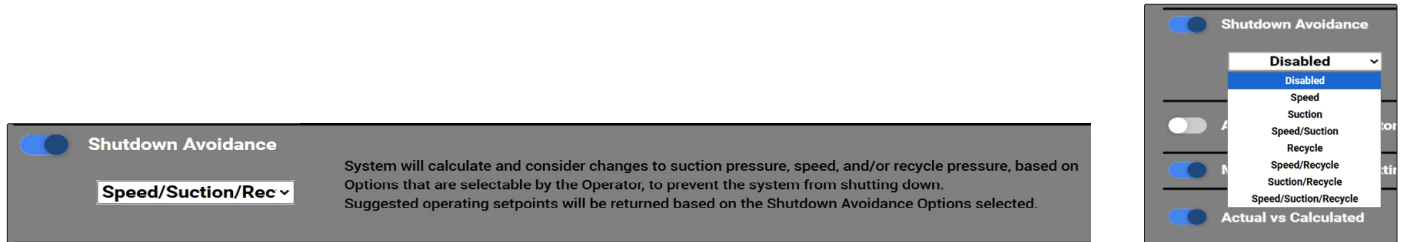

Figure 29
2. Select the **dropdown list** to choose the desired setting: Disabled, Speed, Suction, Speed/Suction, Recycle, Speed/Recycle, Suction/Recycle, Speed/Suction/Recycle. See *Figure 29*. Disabled is selected by default.